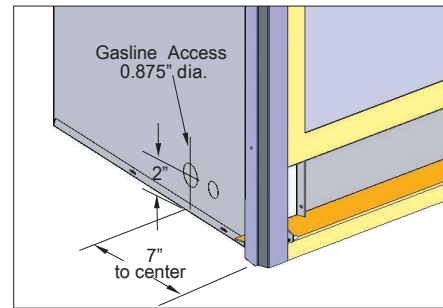

Figure 24. Gas line access.
- See Figure 24 for location of gas line access.